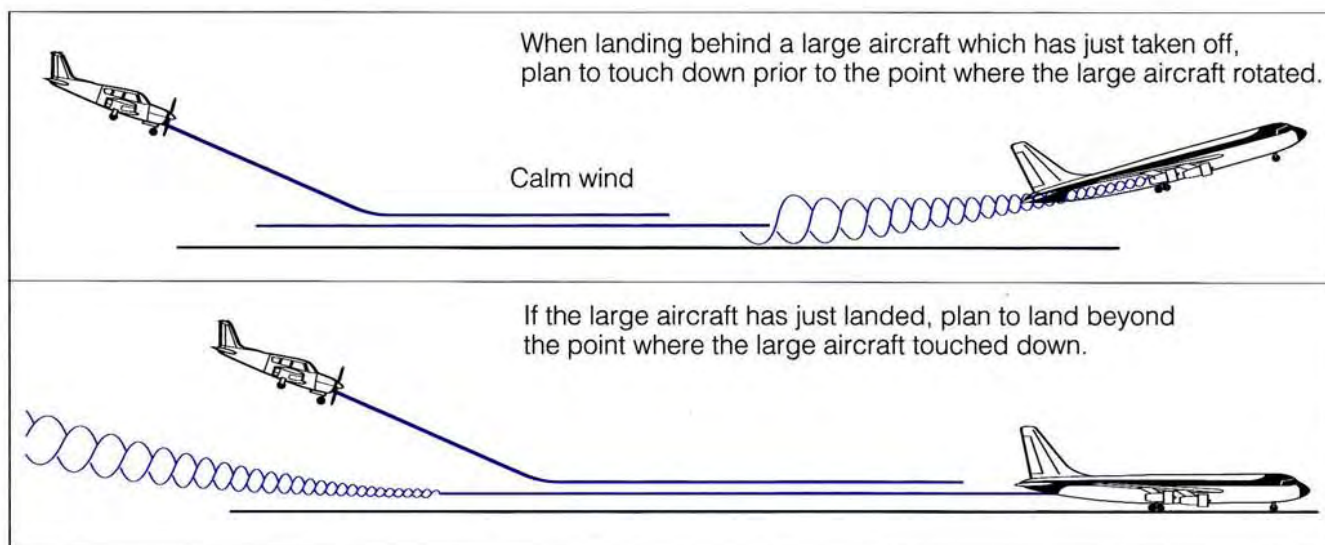

Figure 2-53 Landing behind a Large Aircraft
- (b) if following an aircraft that has just landed, by planning your approach so as to stay above the flight path of the preceding aircraft and to touch down beyond the point where the preceding aircraft touched down (Fig. 2-53).